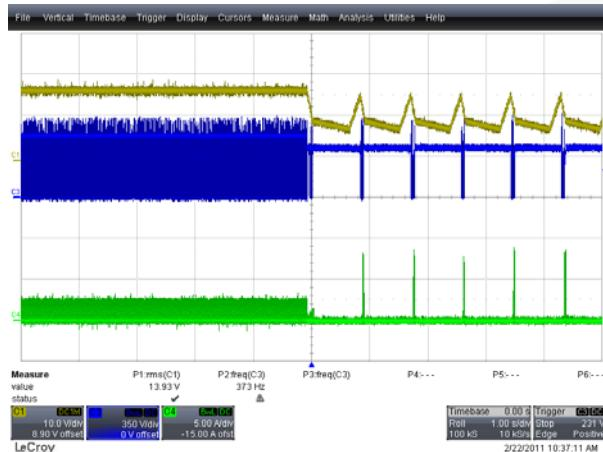
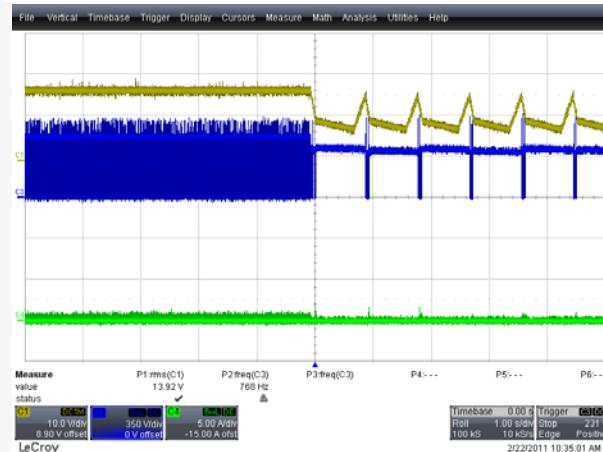

Figure 43. 90 V_{AC} / 60 Hz, CH1 (Yellow):
Figure 44. 277 V_{AC} / 60 Hz, CH1 (Yellow):
Figure 43 and Figure 44 show the V_{DS} and I_{DS} waveforms of the MOSFET (QR) at short-load condition. The IC repeats ON and OFF functions in this mode.